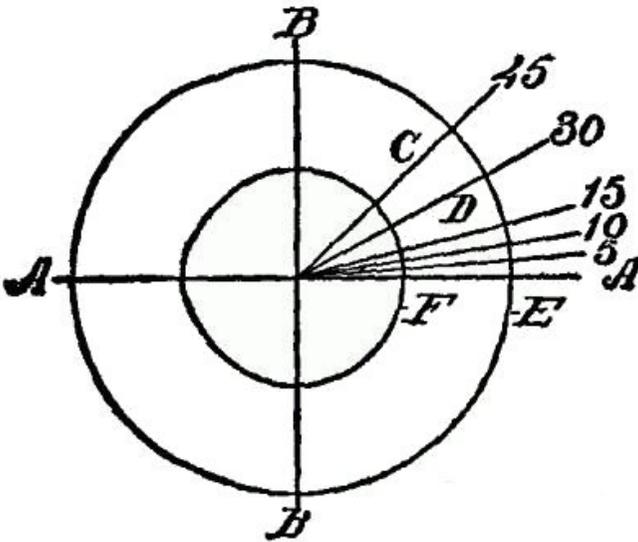

Fig. 51.
Definition of Degree.—A degree is not a measure, as we would designate a foot or a pound to determine distance or quantity. It is used to denote a division, space, interval or position. To illustrate, look at the circle, Fig. 51. The four cardinal points are formed by the cross lines (A, B), and in each one of the quadrants thus formed the circle is divided into 90 degrees. Look at the radial lines (C, D), and you will find that the distance between these lines is different along the curved line (E) than along the curved line (F). The degree is, therefore, to indicate only the space, division or interval in the circle.